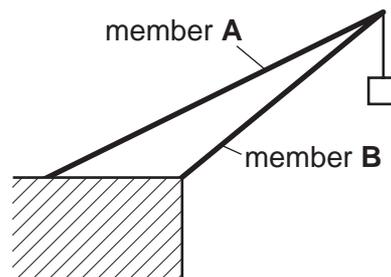

Fig. 2
- 6 Fig. 2 shows a simple crane structure.